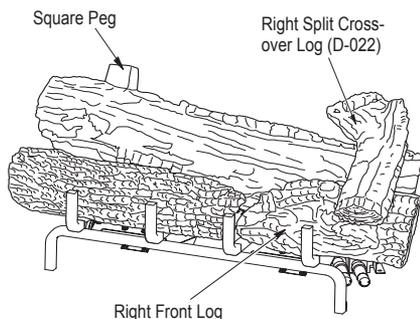

Figure 27 - Installing Right Split Crossover Log
- Find the right split crossover log (D-022). The bottom of the log has a rectangular stand off that fits in the slots on the right side of the front right log and the middle split log. Place this log as shown in Figure 27.